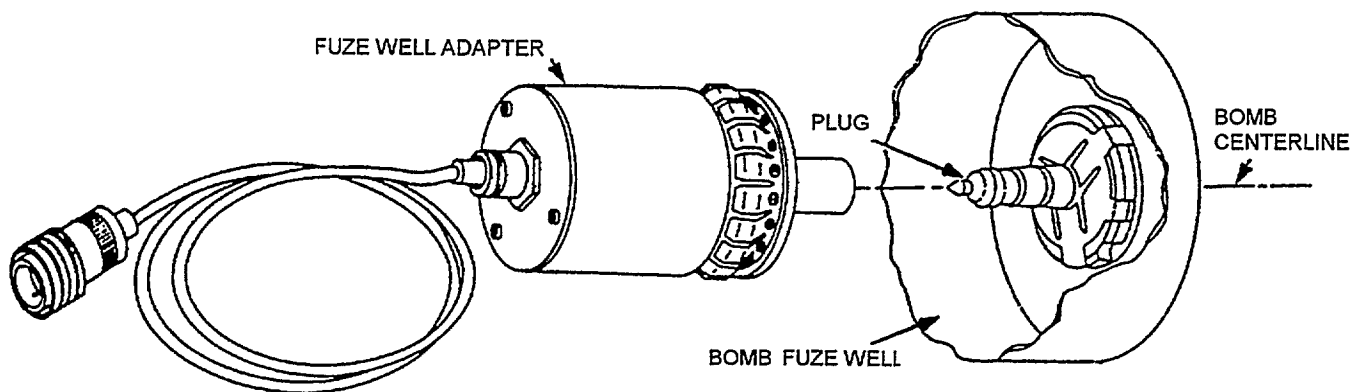

Figure 4-14F. Fuze Well Adapter/Nose Fuze Well Plug Interface
- j. Firmly install fuze well adapter into nose fuze well of the bomb (Figure 4-14F). Verify the male connector in the nose fuze well mates with the fuze well adapter.